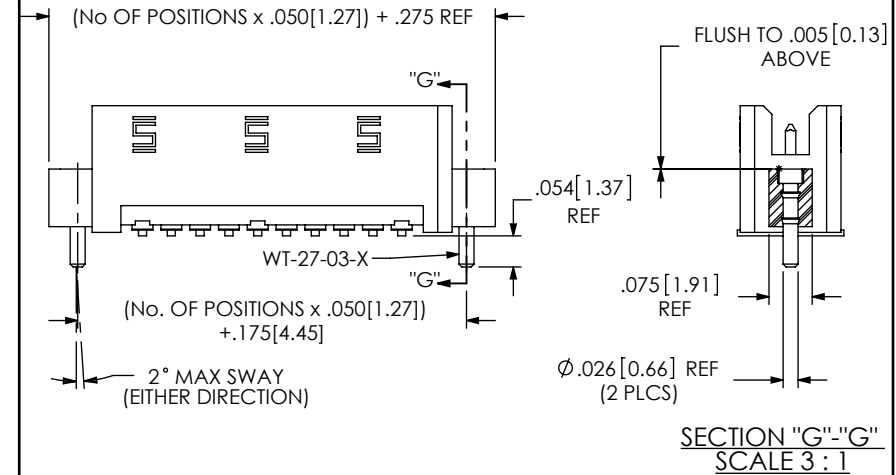

FIG 8
- **SN: SOLDER NAIL (USE WT-27-03) (NOT AVAILABLE WITH -A, -LC, OR -WT OPTIONS) (SEE FIG 8, SHEET 3)